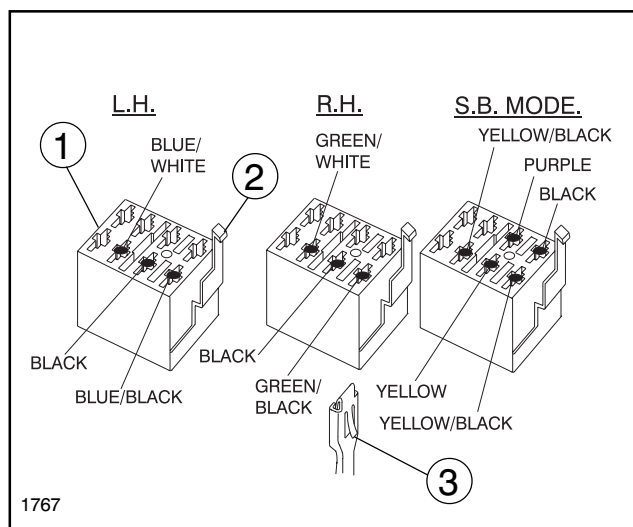

FIG. 18
d. Install the terminals/wires into the sockets of the new Connector Housings, provided, as shown in FIG. 18. Places all the wires from each group into a single Connector Housing. Orienate the terminals as shown in FIG. 18, with the Tangs facing in the direction of the Locking Arm. Firmly press the terminals into the sockets.